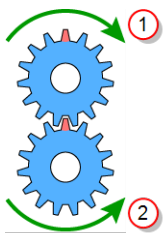
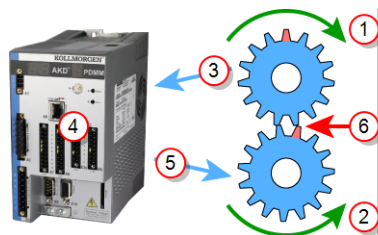

Figure 14-18: Ideal 1:-1 Gearing
Figure 14-19: Real-world 1:-1 Gearing
Figure 14-18 and Figure 14-19 represent a 1:-1 gearing.
- Figure 14-18 is ideal gearing where the master and slave are always perfectly synchronized.
- Figure 14-19 is a real-world gearing example.